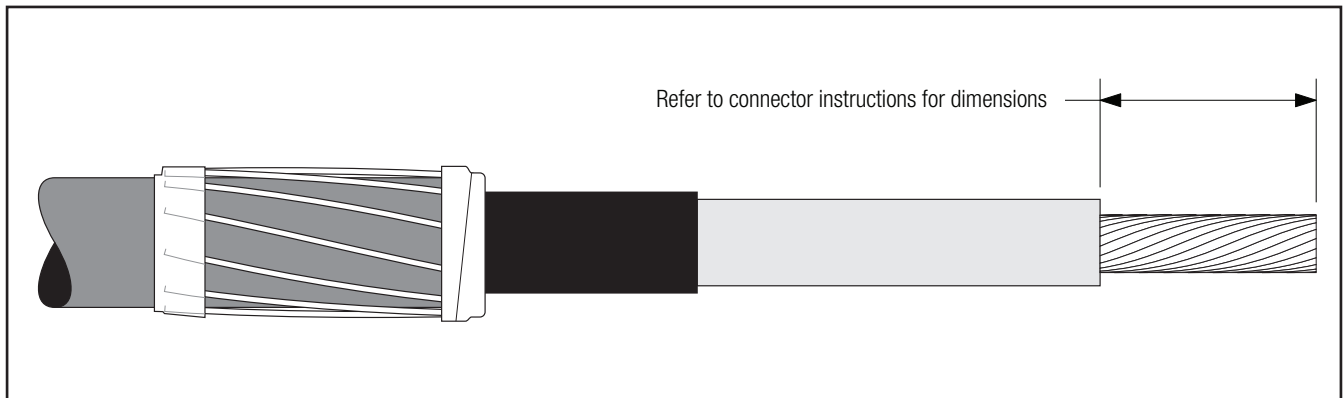

Figure 6
- 3.1 **If using a 3M Shearbolt Connector QCI 4/0-600**, refer to the instructions included with the connector for insulation cut-back dimension. Insulation removal length shall not exceed 3" (76 mm) from conductor end (*Figure 6*).